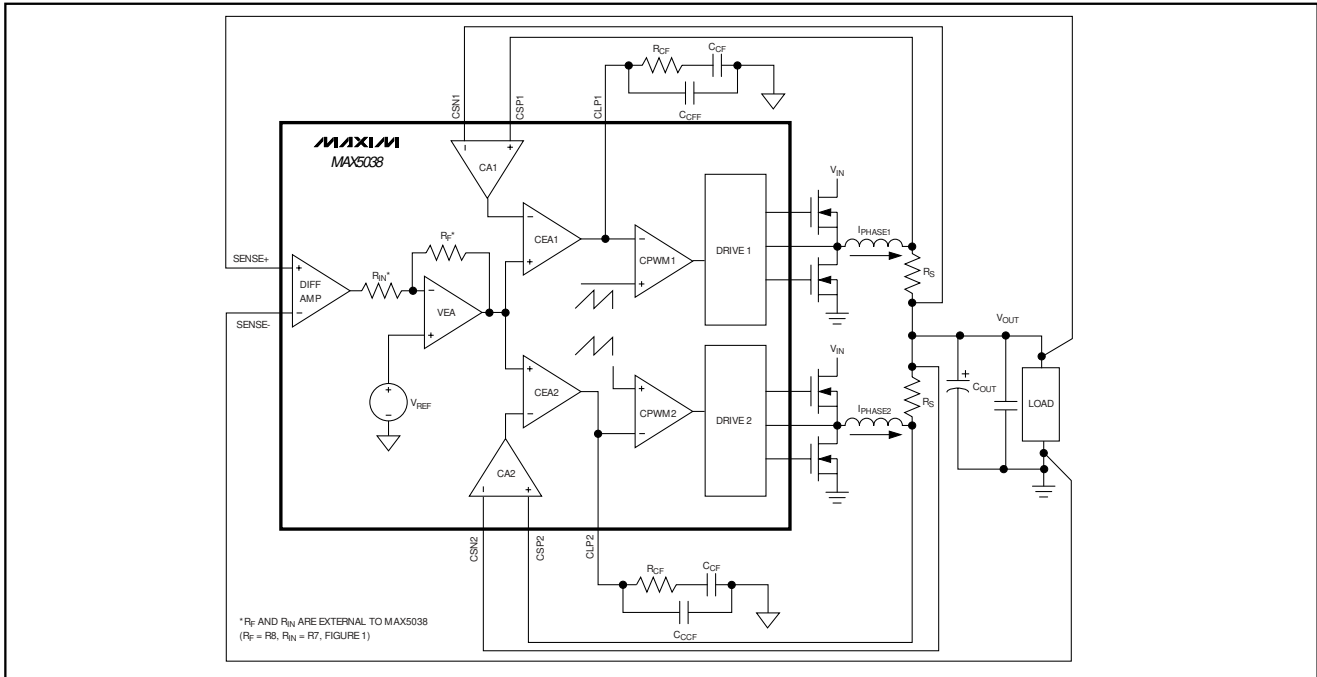

Figure 3a. MAX5038 Control Loop
The MAX5038/MAX5041 use an average current-mode control scheme to regulate the output voltage (Figures 3a and 3b). The main control loop consists of an inner current loop and an outer voltage loop. The inner loop controls the output currents (IPHASE1 and IPHASE2) while the outer loop controls the output voltage. The inner current loop absorbs the inductor pole reducing the order of the outer voltage loop to that of a single-pole system.
The outer voltage control loop consists of the differential amplifier (DIFF AMP), reference voltage, and VEA. The unity-gain differential amplifier provides true differential remote sensing of the output voltage. The differential amplifier output connects to the inverting input (EAN) of the VEA. The noninverting input of the VEA is internally connected to an internal precision reference voltage. The MAX5041 reference voltage is set to +1.0V and the MAX5038 reference is set to the preset output voltage. The VEA controls the two inner current loops (Figures 3a and 3b). Use a resistive feedback network to set the VEA gain as required by the adaptive voltage-positioning circuit (see the *Adaptive Voltage Positioning* section).
Each phase of the MAX5038/MAX5041 has a dedicated transconductance current-error amplifier (CEA\_) with a typical  $g_m$  of 550 $\mu$ S and 320 $\mu$ A output sink and source current capability. The current-error amplifier outputs, CLP1 and CLP2, serve as the inverting input to the PWM comparator. CLP1 and CLP2 are externally accessible to provide frequency compensation for the inner current loops (Figures 3a and 3b). Compensate CEA\_ such that the inductor current down slope, which becomes the up slope to the inverting input of the PWM comparator, is less than the slope of the internally generated voltage ramp (see the *Compensation* section).
The differential amplifier (DIFF AMP) facilitates output voltage remote sensing at the load (Figures 3a and 3b). It provides true differential output voltage sensing while rejecting the common-mode voltage errors due to high-current ground paths. Sensing the output voltage directly at the load provides accurate load voltage sensing in high-current environments. The VEA provides the difference between the differential amplifier output (DIFF) and the desired output voltage. The differential amplifier has a bandwidth of 3MHz. The difference between SENSE+ and SENSE- regulates to the preset output voltage for the MAX5038 and regulates to +1V for the MAX5041.
The VEA output clamps to +0.9V (plus the common-mode voltage of +0.6V), thus limiting the average maximum current from individual phases. The maximum average current-limit threshold for each phase is equal to the maximum clamp voltage of the VEA divided by the gain (18) of the current-sense amplifier. This allows for accurate settings for the average maximum current for each phase. Set the VEA gain using  $R_F$  and  $R_{IN}$  for the amount of output voltage positioning required as discussed in the *Adaptive Voltage Positioning* section (Figures 3a and 3b).
Average current-mode control has the ability to limit the average current sourced by the converter during a fault condition. When a fault condition occurs, the VEA output clamps to +0.9V with respect to the common-mode voltage ( $V_{CM} = +0.6V$ ) and is compared with the output of the current-sense amplifiers (CA1 and CA2) (see Figures 3a and 3b). The current-sense amplifier's gain of 18 limits the maximum current in the inductor or sense resistor to  $I_{LIMIT} = 50mV/R_S$ .